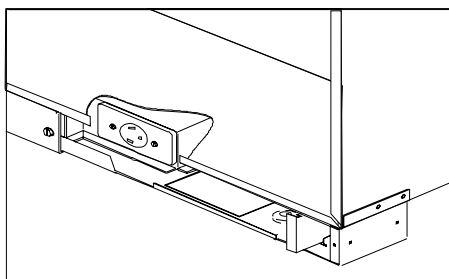

Figure 4
- If the unit is mounted on a subbase with a power receptacle, remove the right front cover plate of the subbase, connect the plug end of the power cord into the subbase power receptacle, and route the cord up out of the subbase through the cord slot in the right side of the subbase (Figure 4). Replace the subbase right front cover panel.